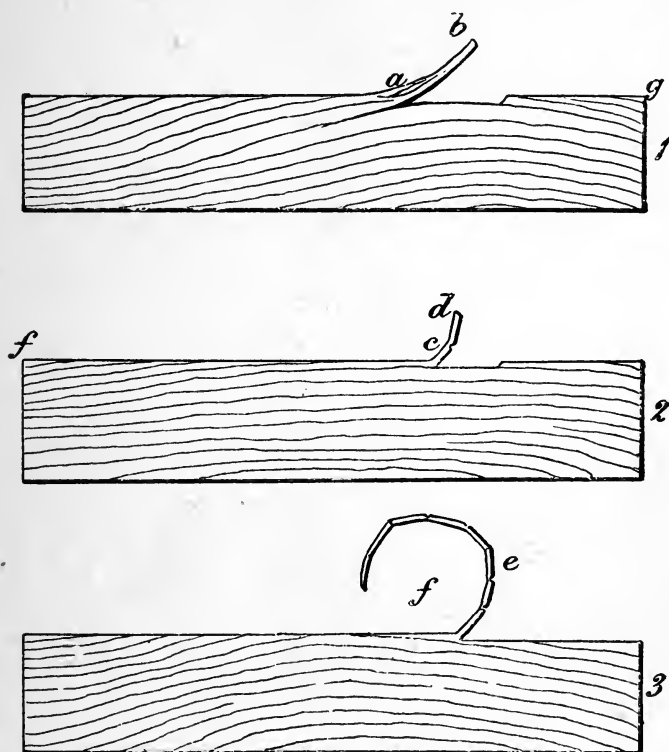
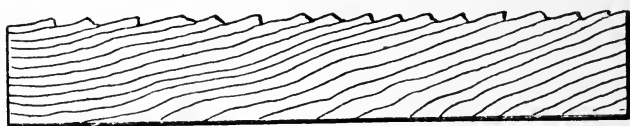

Fig. 25.
Fig. 27.
With this instrument it is impossible for the end of the shaving to slide far up the iron, and cause a deep split in the wood, because the shaving is caught by the back iron or cap and bent forward. If the cap is thick enough, and set near enough to the edge of the cutting-iron, it will bend the shaving so abruptly as to break it. As long as the shaving was a strong stick or splinter, as at *a b*, Fig. 25, the forward movement of the cutting-iron tended to lift this stick up without breaking it, and extend the split
4. Do not, as a general rule, work "against the grain," that is, in such a direction as from *a* to *g*, Fig. 25, or from *c* to *f* in the same figure. When you work thus, each fiber is torn some little distance down into the wood before it is cut off, and the result is a number of small, shallow pits, deeper at one end than at the other, leaving the surface rough, as in Fig. 27, in which the appearance
leaves the surface smooth. As the grain often runs differently in different parts of the piece (as it does, for example, in Fig. 25) it will be necessary, in such cases, to turn the piece from time to time, as you work on different parts. While it is not best in general to work against the grain, it is often allowable, and even preferable, to do so when a considerable thickness of wood is to be removed, as the plane, if not set too coarse, works freer and more rapidly against the grain than with it. In this case also, however, it will be necessary, when nearly the desired amount of wood has been taken off, to turn the piece, and finish with the grain.